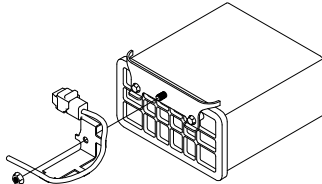

Figure A5
9. **Un-attach wiring bracket.** Locate the fuel vapor canister box mounted just under the front bed cross member on the driver's side of the truck. Remove the nut holding the wiring bracket to the back of the box. This will be relocated later, see figure A5.